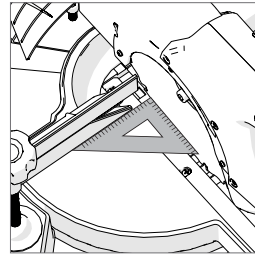

Fig. 19
- Place a Set Square on the table with one short edge against the Fence and the other short edge against the Blade (avoiding the TCT tips). (Fig. 19)